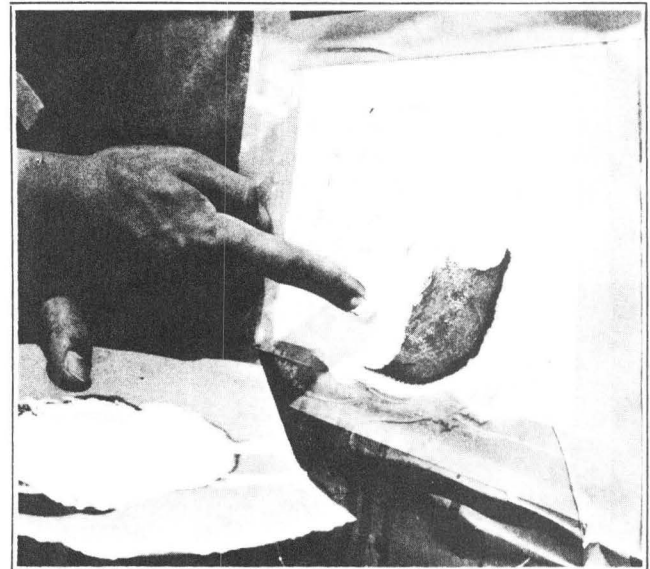

**Figure 4-12. Rough Sanding Outside Surface**
- After the patch is cured, remove the cardboard from the outside of the hole and rough sand outside surface, feathering the edge of the hole. See Figure 4-12.